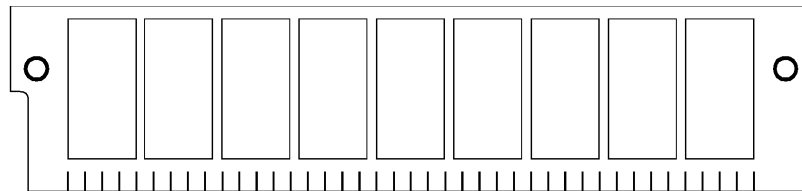

Figure 1 - SIMM
The RAM in the PCRIP-10 consists of four (4) - 1 Megabyte by 8 (or 9) Single-Inline-Memory-Modules (SIMMs) running at 70 nanoseconds. A SIMM consists of a very small (appr. 3/4" inch by 3 1/2" inches) printed circuit board (PCB) with 30 contact fingers which plug into sockets on the main board of the PCRIP-10. Dynamic RAM memory chips which are soldered on to this small PCB can communicate with each other through the wiring in the board and with the main board through the 30 contact fingers. The actual physical number of DRAM chips installed on the SIMM can be either 2 or 8 for 1 Mb x 8 (3 or 9 for 1 Mb x 9) depending on the density of the chips. (See Figure 1.)